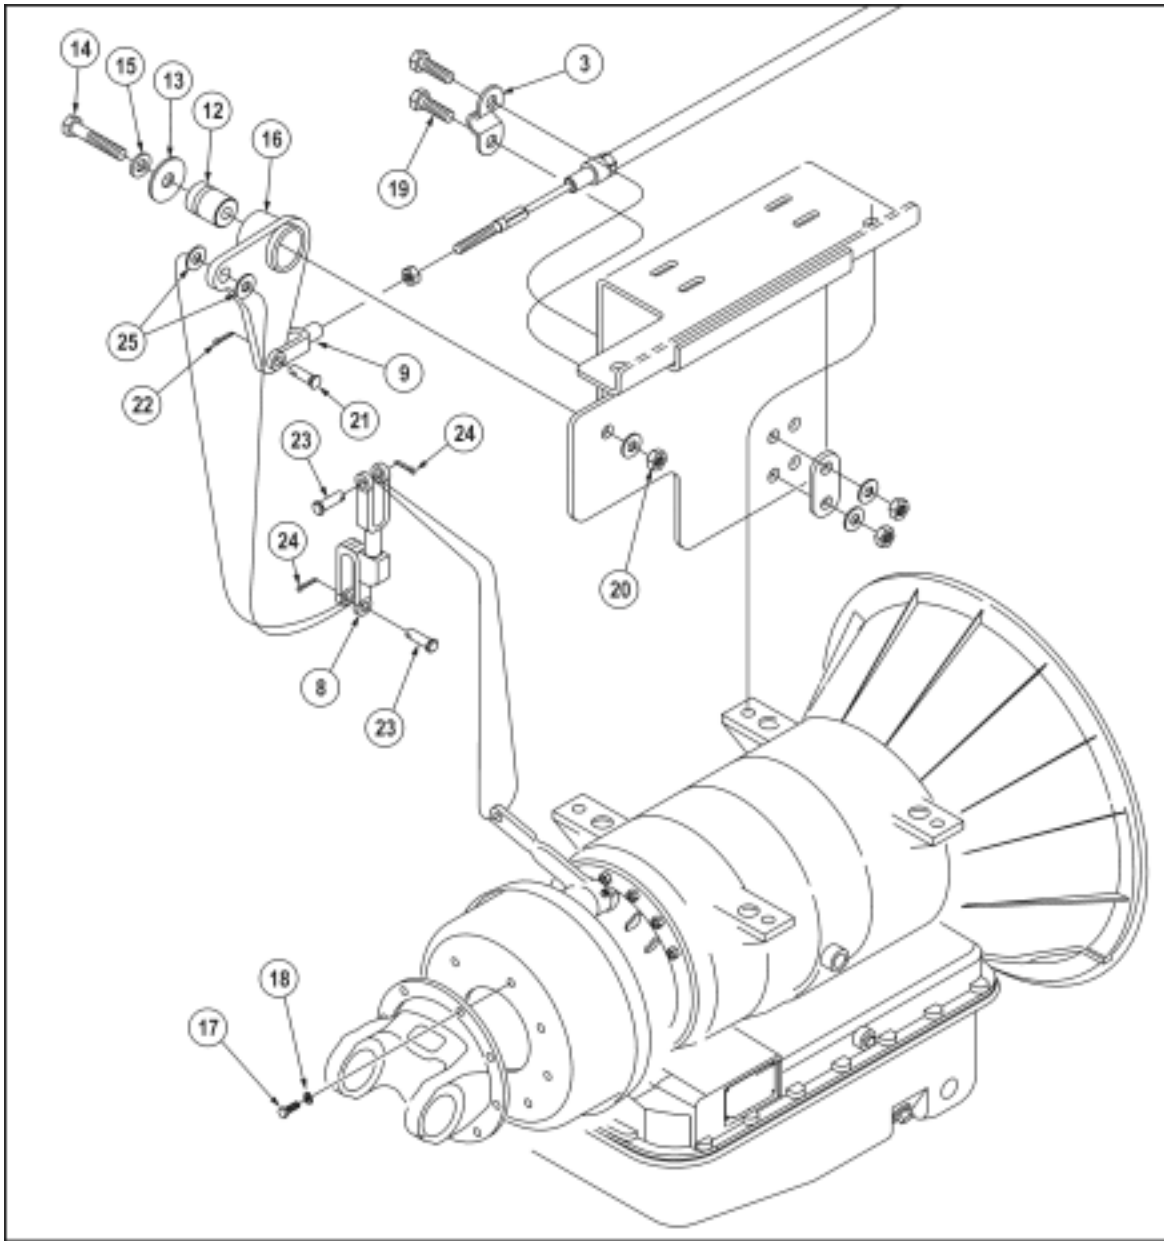

Figure 3—MD 3060 Transmission
*There is no need to remove the mechanical park brake to remove the transmission. Simply remove cotter pin (22) and clevis pin (21) from Bellcrank (16); then, remove capscrews (19) and cable clamp (1) to release cable assembly. **Figure 3.** Disconnect the driveline in accordance with instructions in section 050—Drivelines. The transmission can be removed without further disassembly of the mechanical park brake control linkage.*
1. Remove cotter pin (24) in two places. **Figure 3.**
2. Remove clevis pin (23) in two places. The lower clevis pin has a flat washer (25) on each side of the Bellcrank.
3. Remove clevis assembly (8).
4. Remove cotter pin (22) and clevis pin (21) to remove control cable clevis (9) from the Bellcrank assembly.
5. Remove lock nut (20) and flat washer from capscrew (14) to remove Bellcrank assembly from bracket.
1. Install flat washer (15) onto capscrew (14). **Figure 3.**
2. Install flat washer (13) onto capscrew (14).
3. Install Mechanical Park Brake Linkage Spacer (12) onto capscrew (14), and into the hole in the Bellcrank (16).
5. Install flat washer and lock nut (20). Torque to non-designated fasteners torque values, located in Section 005—Introduction.